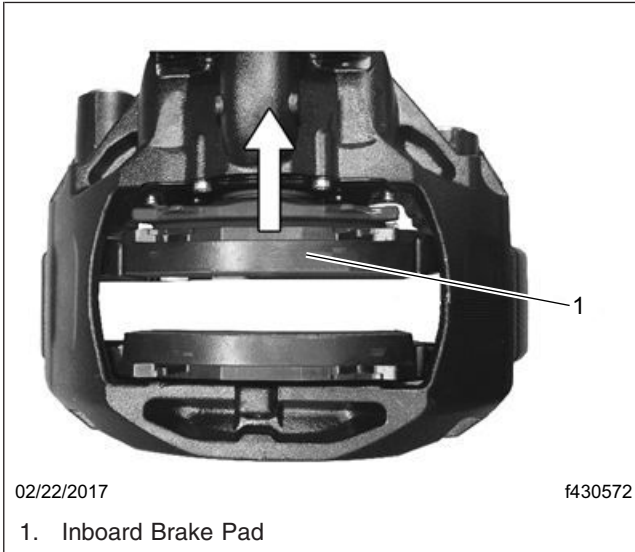

Fig. 4, Installing the Inboard Brake Pad
13. Reinstall inboard-side brake pad. See Fig. 4. Push the brake caliper toward the outboard side until the brake pad of the inboard side bears against the brake disc.